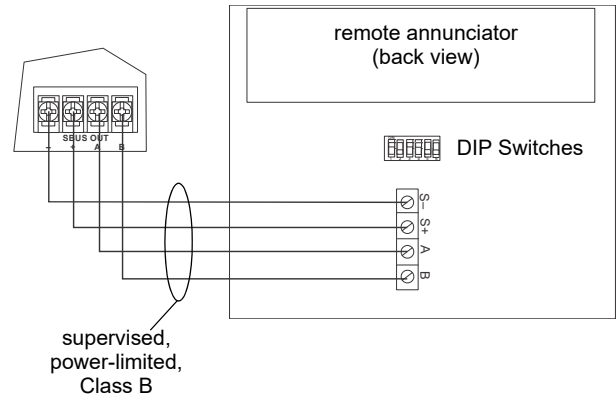

Figure 5 SBUS Connections
3. Connect the TR-RD2R/G to the panel. See Figure 5.
3. Wire the annunciator board to the main control panel as shown in Figure 5.
7. Run wires to the control panel. Refer to Figure 5.